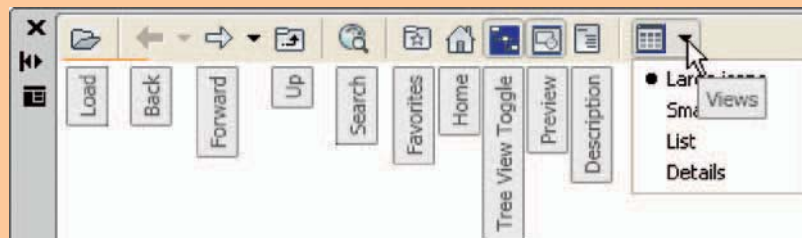

Fig. 9.11 The icons at the top of the DesignCenter palette
2. Clicks on one of the three icons at the top-right corner of the palette (Fig. 9.11) have the following results: